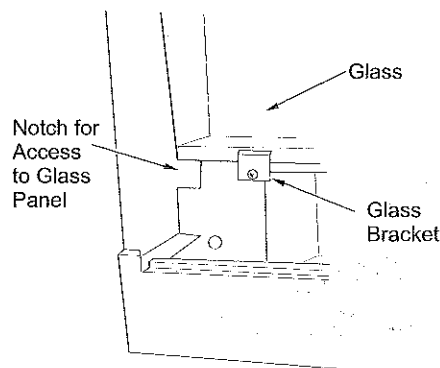

Figure 7 - Glass and Bracket Location
3. Loosen left and right screws/brackets that hold glass in place. These are located at the bottom of glass panel (see Figure 7).
4. With gloves and safety glasses in place, lift up on bottom of glass by placing fingers in notches (see Figure 7) and pull forward. Place glass on smooth, soft surface to avoid breakage.